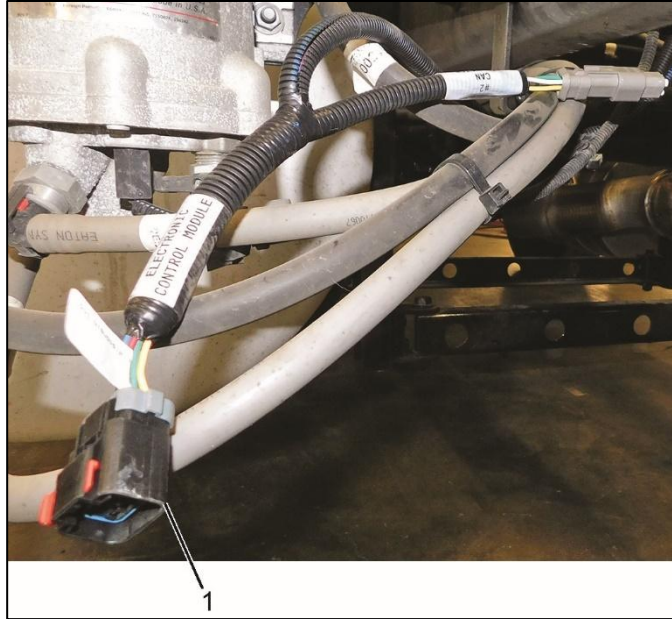
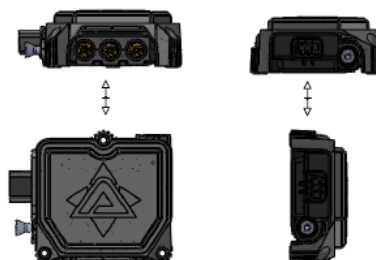

Figure 3
Figure 4
- Route wiring harness (Figure 3, Item 1) along existing chassis harness or air tubing to desired MiLift PCU location. Use UV-resistant zip ties at 12-inch intervals.
10. Use the MiLift PCU (Figure 4) on bracket as a drilling template, mark mounting bolt location for MiLift PCU on flat vibration insulated surface.
12. Mount MiLift PCU (Figure 4) and secure with M8 hex head nuts and bolts, grade 8.8 or better. Torque nuts to 28 Nm  $\pm$  2 Nm.
13. Connect wiring harness (Figure 3, Item 1) to MiLift PCU (Figure 4).